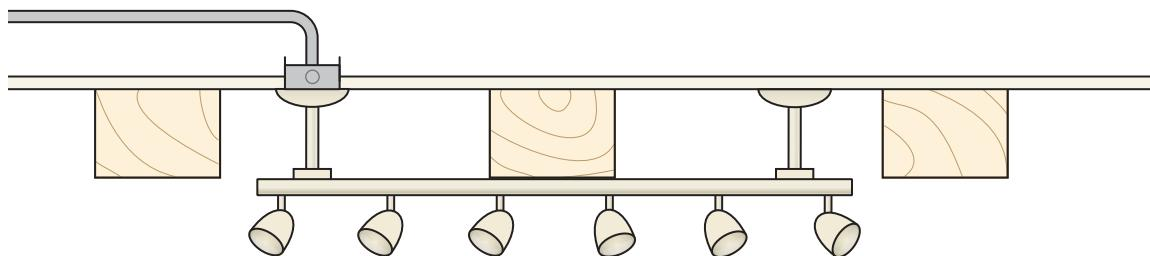

FIGURE 13-5 Track lighting mounted on the bottom of a wood beam. The supply wires to the track assembly are fed through the pendant. (*Delmar/Cengage Learning*)
1. Install pendant kit assemblies that will allow the track to hang below the beam, as in Figure 13-5.